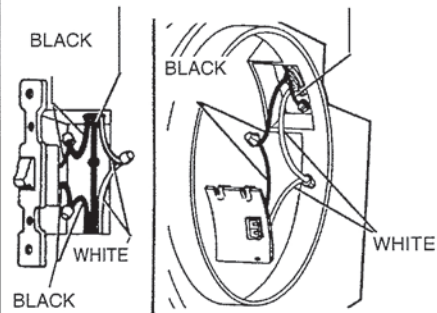

FIG. 10
3. Attach ductwork. Run ductwork to roof or wall cap. See "Typical Installations" (FIGS. 1-4) Make sure that both fan damper and damper inside roof cap open freely (FIG. 10).